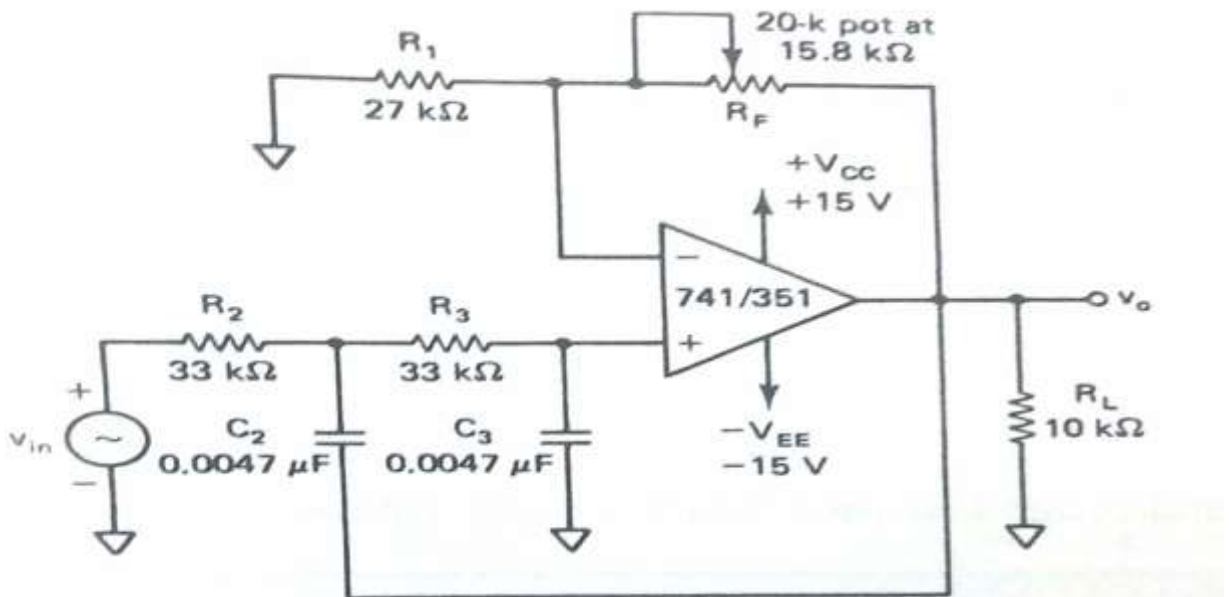

Fig.14.1 Circuit Diagram of a second order low pass filter
- Connect the circuit as shown in fig 14.1